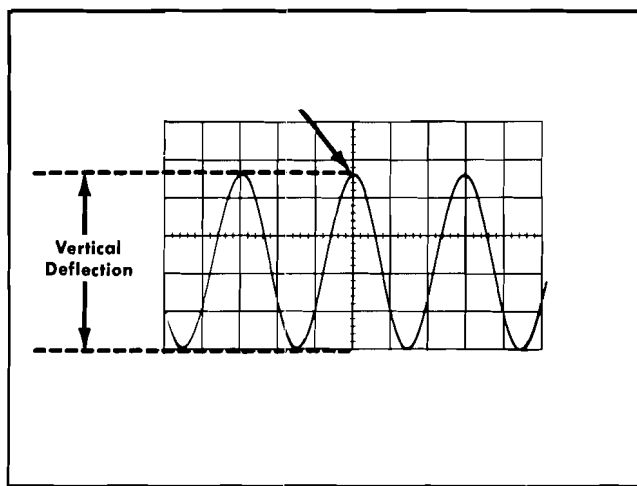

Fig. 2-1. Measuring the peak-to-peak voltage of a waveform.
6. Turn the POSITION control so the lower portion of the waveform coincides with one of the graticule lines below the centerline. With the time-base Position control, move the display so one of the upper peaks lies near the vertical centerline (see Fig. 2-1).
As an example of this method of measurement, assume that the peak-to-peak vertical deflection is 4.6 divisions (see Fig. 2-1) using a $10\times$ attenuator probe and a VOLTS/DIV setting of .5.